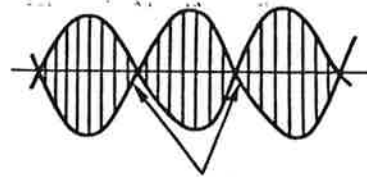

Figure 22
To set the transceiver into the transmit mode without the microphone, insert a dummy plug (wired as shown in figure 22) into the MIC jack on
- 1) Adjust the attenuator for an input level of 2 to 3 mVrms at the mic input terminal of the set. (Set output levels of the audio oscillator A and B for a 2-tone waveform. Shown in figure 22.)